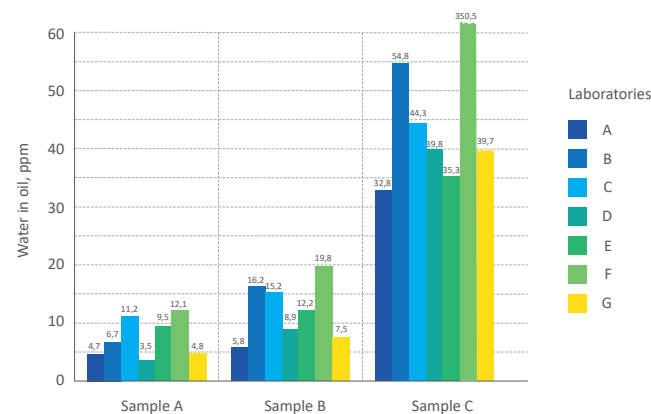

Figure 6. Reliability and Improvements of Water Titration*** by the Karl Fischer Technique
6. Furthermore, oil samples can be contaminated at the sampling time or in the laboratory. As the moisture level is anyway very low in oil, any contamination (simple contact with the ambient air) will affect the sample ppm result. The chart (figure 6) shows PPM analysis results of 7 different laboratories on 3 different oil samples. It is clear that for moisture analysis the error range is very wide.